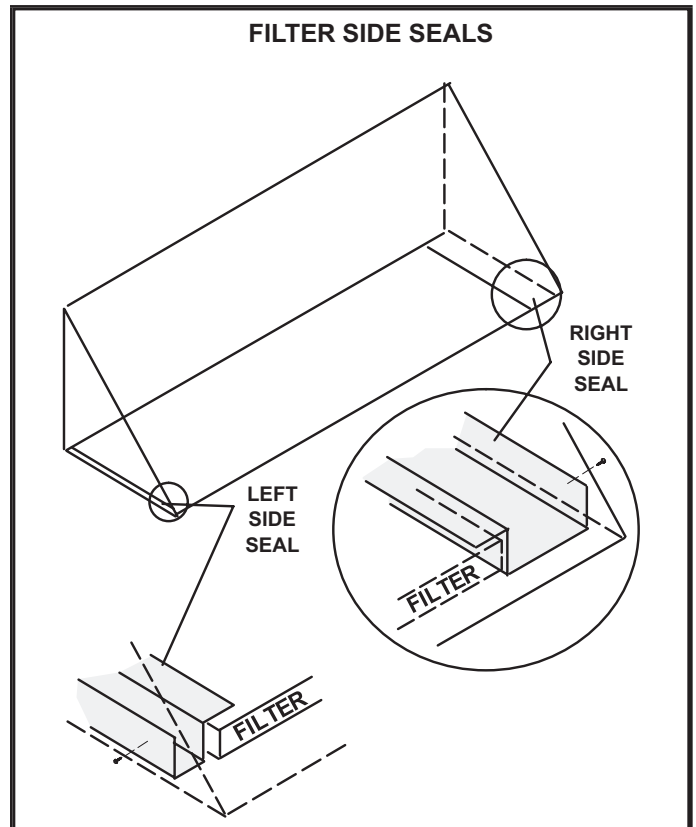

FIGURE 6
- 4 - Position filter side seals on hood sides; make sure brackets are on the INSIDE of the hood. Secure with screws provide. See FIGURE 6.